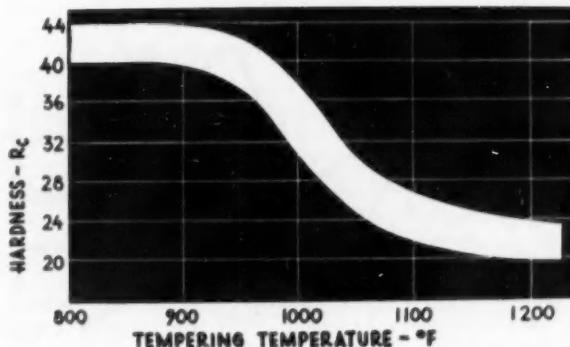

Fig. 6—Tempering temperature does not have to be so closely controlled to temper blades to 20–26 Rc as it does to temper them to 32–38 Rc.
3. Heat Treatment—For optimum physical properties, compressor blades should be given a full (quench and temper) heat-treatment after forging. Fig. 6 shows what the heat-treater is up against, when trying to temper 403 stainless to 32–38 Rc. The normal heat-to-heat variation alone will cause many blades to fall outside the specification hardness range. Such blades, of course, have to be given a time-consuming reheat treatment. Contrast this with the relatively simple problem of hitting the correct hardness range with the practically flat tempering curve in the hardness range of 20–26 Rc. No